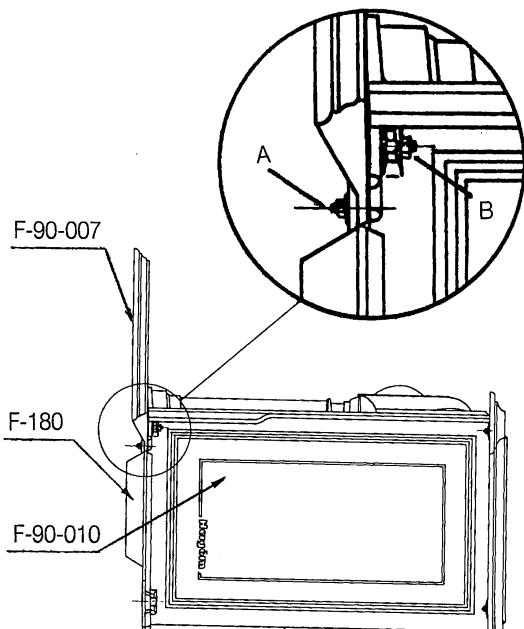

Fig. 2
3. Fit tray (F.90-007) close to bottom (F-180), as shown in Fig. 2, until holes match (Detail "A"). Hold both parts together using four M.6x20 screws with their nuts and washers. To hold the tray at the sides two M.6x40 screws with nuts and washers are used, (Detail "B").